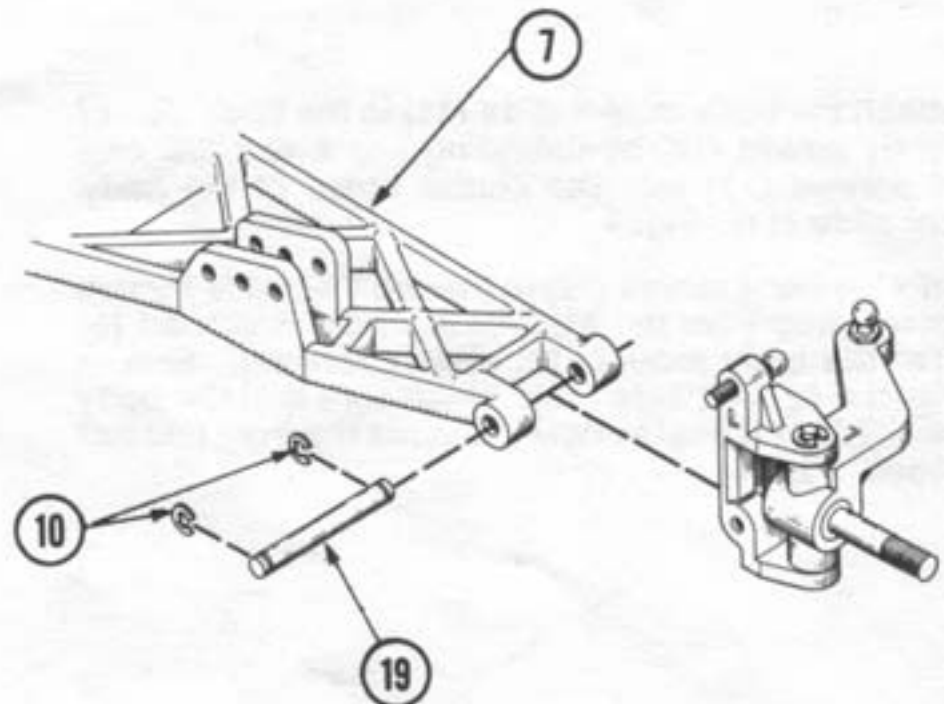

Figure 6
11. Attach left spindle carrier assembly to left suspension arm (7) using a 1/8" x .960 hinge pin (19) secured with two 1/8" E-clips (10). Repeat for right side. Fig. 6